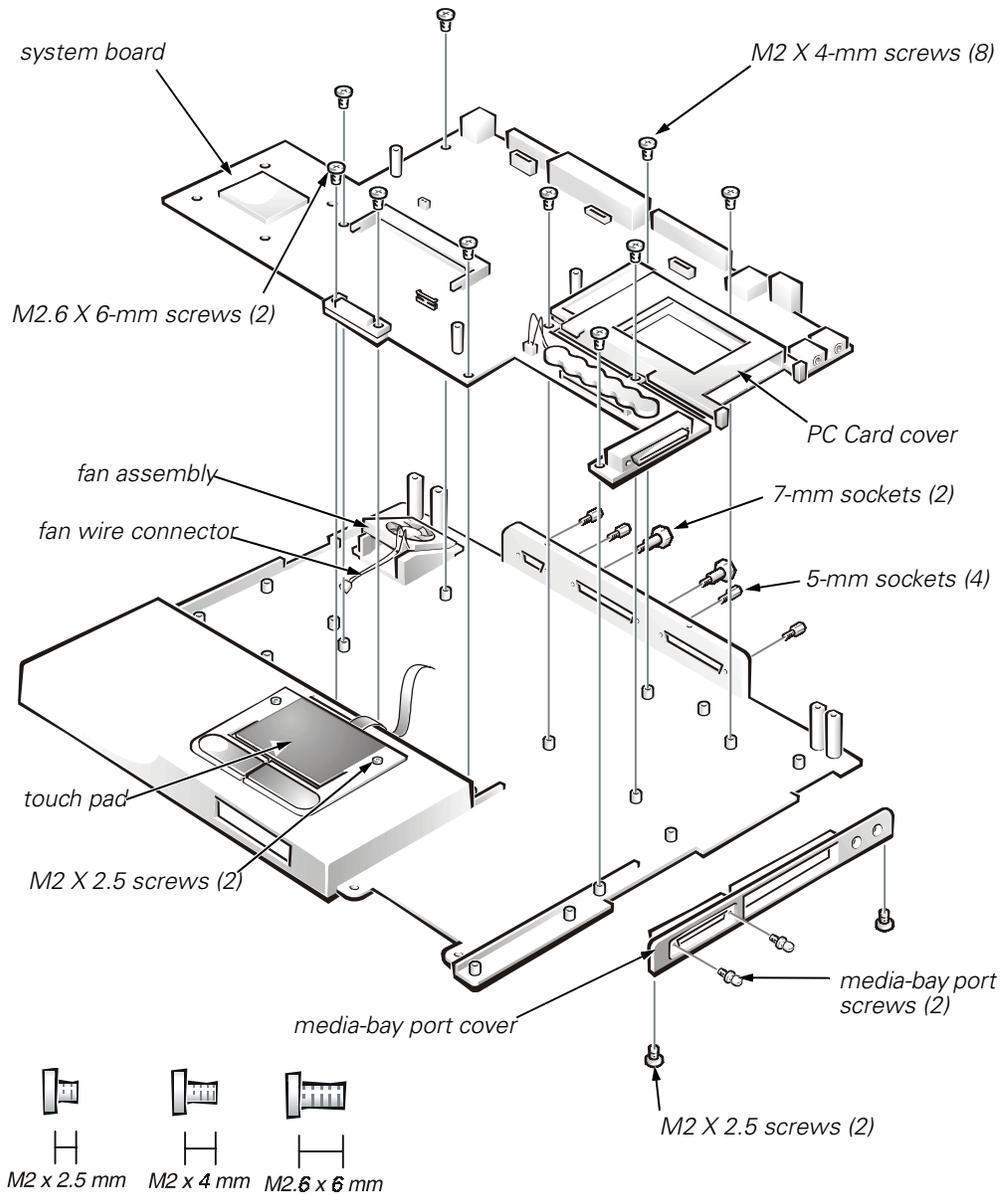

Figure 19. System Board Assembly Removal
3. Remove the media-bay port cover from the bottom assembly by removing the two M2 x 2.5 screws from the bottom of the media-bay port cover and removing the two media-bay port screws (see Figure 19).
11. Carefully disconnect the fan wire connector from the system board (see Figure 19).
2. Remove the two M2 x 2.5-mm screws from the top of the touch pad (see Figure 19).
3. Carefully disconnect the fan wire connector from the system board (see Figure 19).